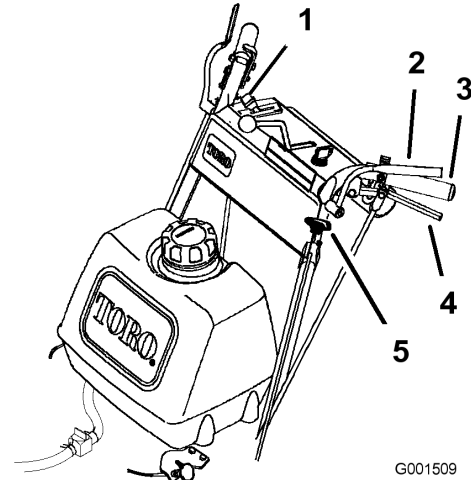

Figure 11
1. To engage blades, squeeze the Operator Presence Control (OPC) levers against handle grips (Figure 11).
1. Push the blade control knob (PTO) down to off (Figure 11).
2. Releasing the Operator Presence Control (OPC) levers will kill the engine and stop the blades (Figure 11).